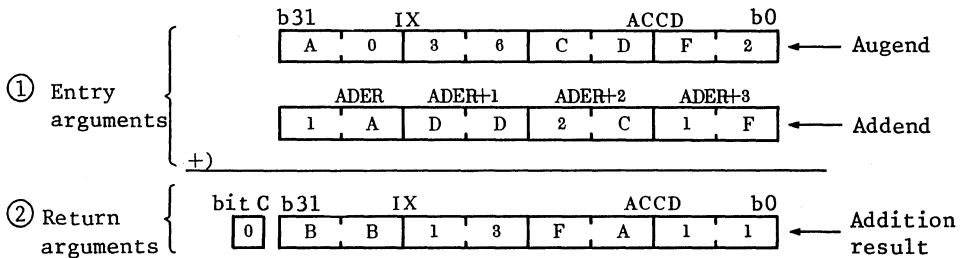

Fig. 1 Example of ADD execution
(b) Fig. 1 shows example of ADD execution. If entry arguments are as shown in part ① of Fig. 1, addition result is contained in IX and ACCD as shown in part ② of Fig. 1.